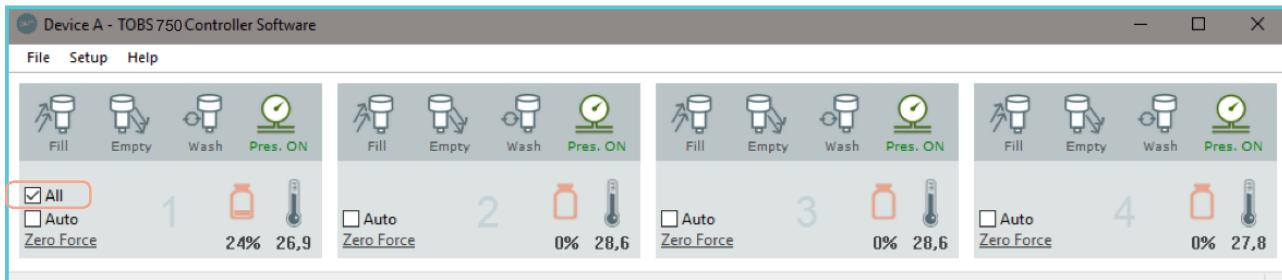

Figure 52: Selection of the All feature. This selection will make sure that e.g. pressing the Fill button will fill all four channels
- **All:** If 'All' is checked, the activation of 'Fill', 'Empty', 'Wash', 'Pressure' and 'Zero', will be applied to all the chambers simultaneously (figure 52).